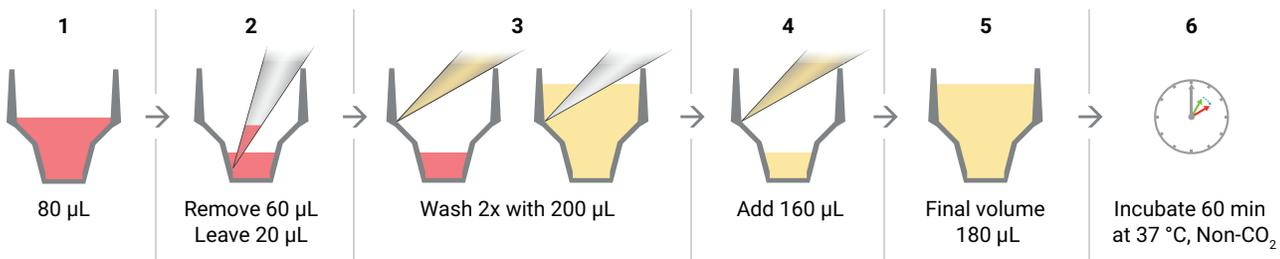

Figure 2. Cell wash workflow schematic – standard XF assay (not applicable to the XF Real-Time ATP Rate Assay and the XF Glycolytic Rate Assay. See Figure 3)
3. Remove all but 20 μL of the culture medium from each well using an 8- or 12-channel pipette (Figure 2).